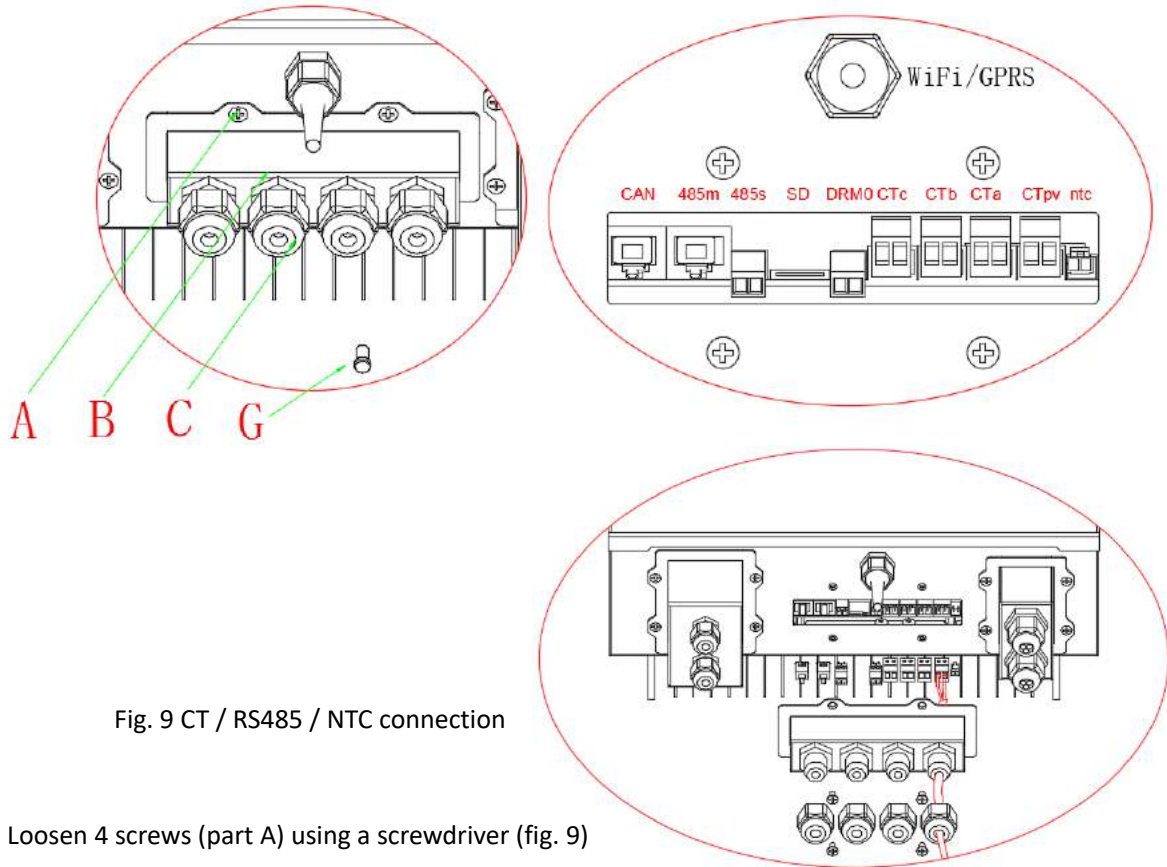

Fig. 9 CT / RS485 / NTC connection
Step 3: Loosen 4 screws (part A) using a screwdriver (fig. 9)